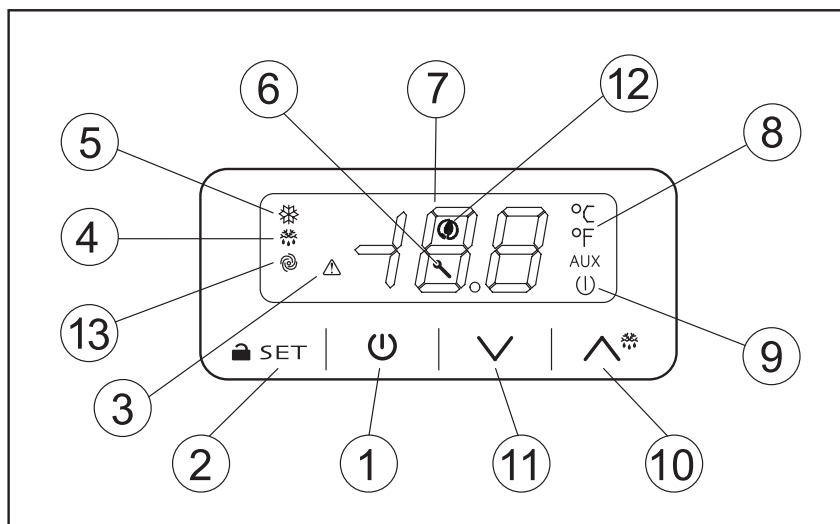

Fig.3
9.1 Description of the controls and buttons (Fig. 3)
Startup sequence (fig.3).
► Push the ON/OFF key (1) for 4 seconds	The display will turn on and show the cabinet temperature
9.2.2 Shutdown methods (fig.3)
► Push the ON/OFF key (1) for 4 seconds	The display will turn off and the current presence icon (9) will turn on.
9.2.3 Temperature setting (fig.3)
9.2.4 Automatic and manual defrost (Fig. 3)
9.2.5 Keyboard lock (fig.3)
9.2.6 Alarms and signals (fig.3)